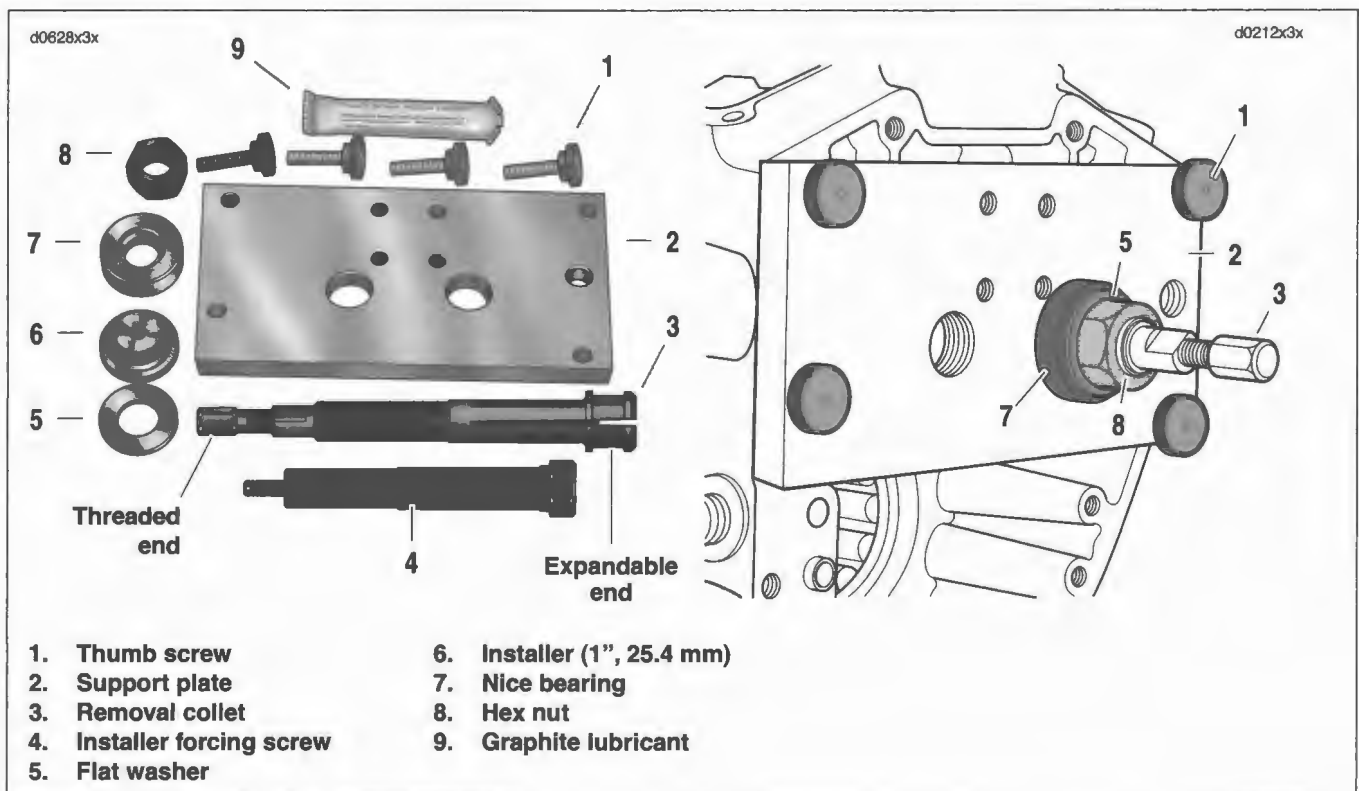
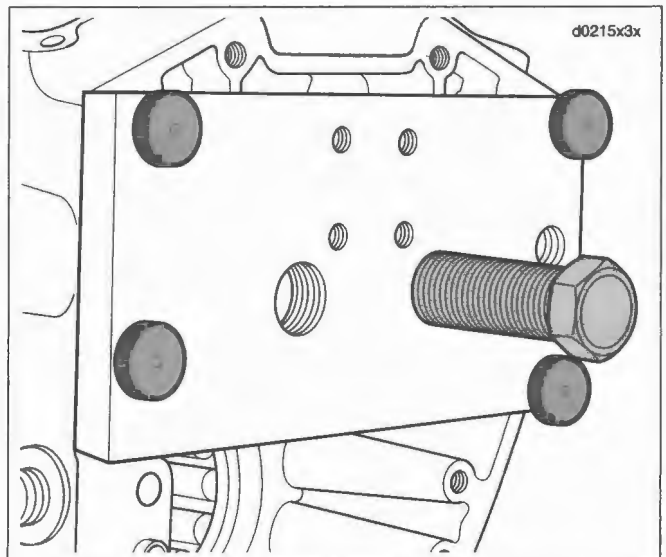

Figure 3-133. Camshaft Needle Bearing Remover/Installer (Part No. HD-42325)
Figure 3-135. Installer Forcing Screw Installation
2. See Figure 3-133. Remove four thumb screws (1) from threaded holes in support plate (2), if installed.
3. Sparingly apply graphite lubricant (9) to threads of collet (3) to prolong service life and ensure smooth operation.
7. Center expandable end of collet in bearing bore and slide Nice bearing (7) and flat washer (5) on threaded end. Start hex nut (8) on threaded end.
2. See Figure 3-133. Sparingly apply graphite lubricant (9) to threads of installer forcing screw (4) to prolong service life and ensure smooth operation.
3. Thread installer forcing screw into stamped side of support plate (2) until threads begin to emerge from opposite side.
4. Place installer (6) at end of installer forcing screw.
6. See Figure 3-135. Aligning two large holes in support plate with needle bearing bores, hang right side of plate on ring dowel in crankcase flange.